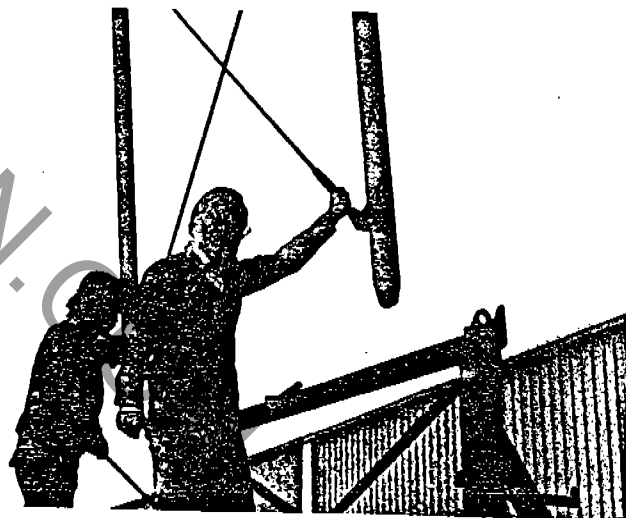

Fig. 35
- d. *Slowly* raise the upper slide frame. Guide the support arms as they swing forward and hang directly over the standing support brackets. (Fig. 35)